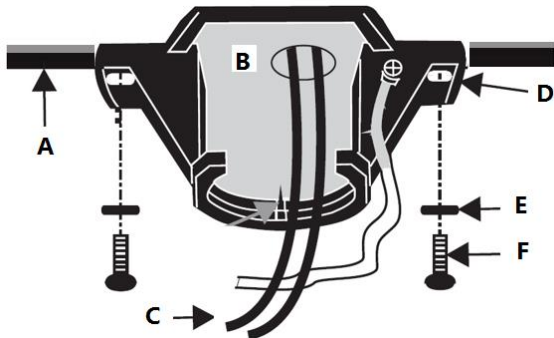

Fig. 8
Pass the power supply wires (C) from the ceiling outlet box (B) through the center of the ceiling mounting bracket (D). Install the ceiling mounting bracket (D) on the outlet box (B) with the mounting screws (F) provided with the outlet box and washers (E) provided with fan. **Fig. 8**